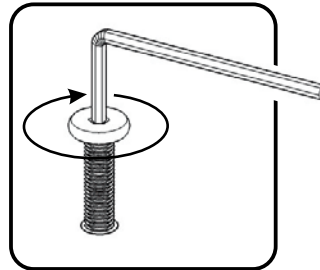

Figure 1
Attach Back Panel (F) and Base (G) to Side Panel (B) with Head Cap Bolts (long), tightening the bolts only half way. (See Figure 1)